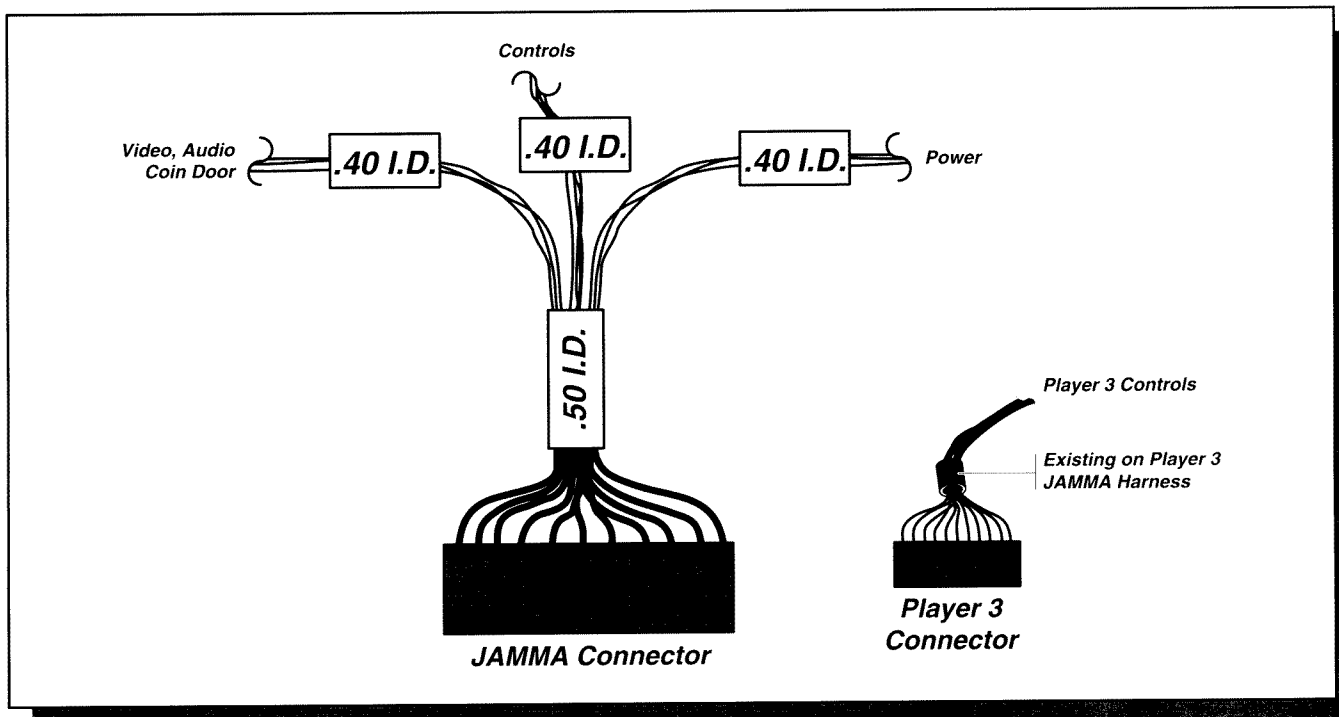

Figure 1-5 Correct Placement of Split Beads
2. Install one pair of 0.50" split beads on the JAMMA harness (See Figure 1-5).
3. Install one pair of 0.40" split beads on the following harnesses (See Figure 1-5):
10. Be sure to install the split beads included in the kit. See Figure 1-5 for the correct placement of the split beads.